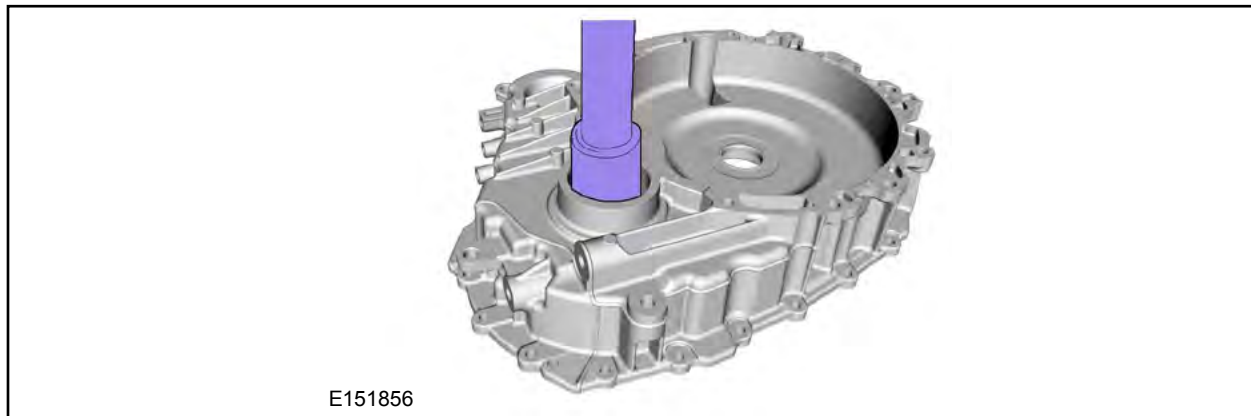

FIGURE 12
9. Remove and discard the damper housing side differential bearing cup. See Figure 12.